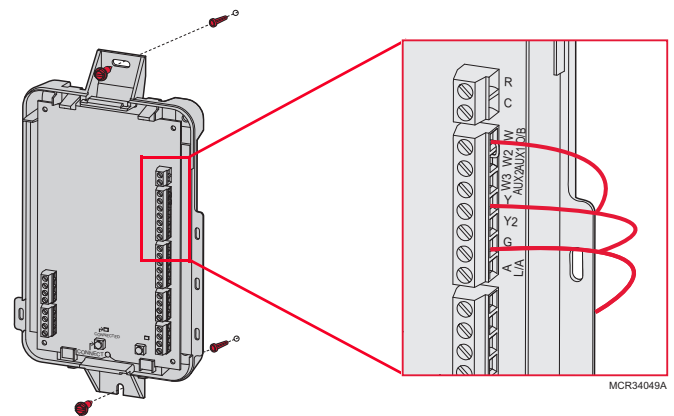

Fig. 7.
2. To wire the EIM, strip 1/4” insulation, then insert wires (see Fig. 7). For wiring diagrams, see “Wiring” beginning on page 118.